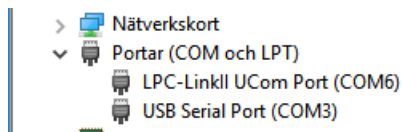

Figure 64 - LPC-Link 2 COM port
6. Open the device manager and make sure the LPC-Link 2 shows up under ports as shown in Figure 64. If it doesn't appear correctly please follow the instructions in section 9.2.2 for a possible solution.